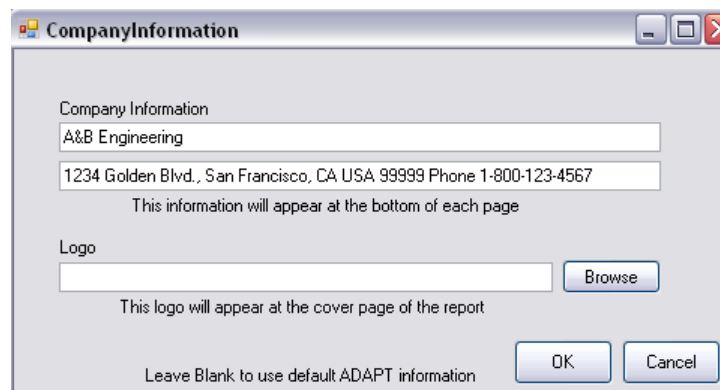

FIGURE 4.4-2
- Report cover: Select this option to generate a report cover with your logo and company information. To update your company information, click on **Update Company Info** on the *Report Generator* and you will see the screen **Company Information** shown in **Figure 4.4-2**.